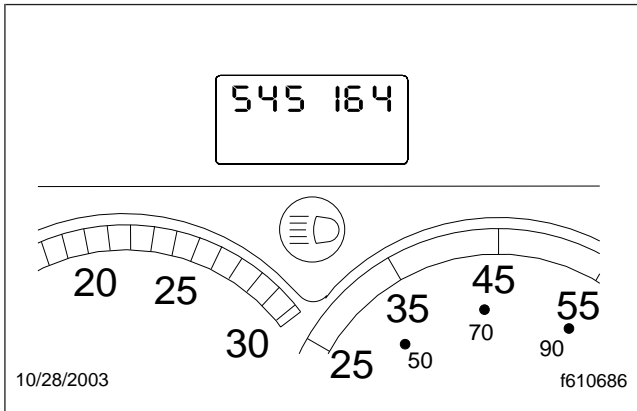

Fig. 3, J1587 Fault Code "SYS 164"
1. In this example, during an active fault the first screen shows "SYS 164". See Fig. 3. This indicates the fault is coming from the BHM, which has a J1587 MID of 164.
NOTE: The Bulkhead Module (BHM) will appear on the dash message center as "SYS 164." Be aware that the "SYS" looks like the numbers "545" on the digital display, as shown in Fig. 3.